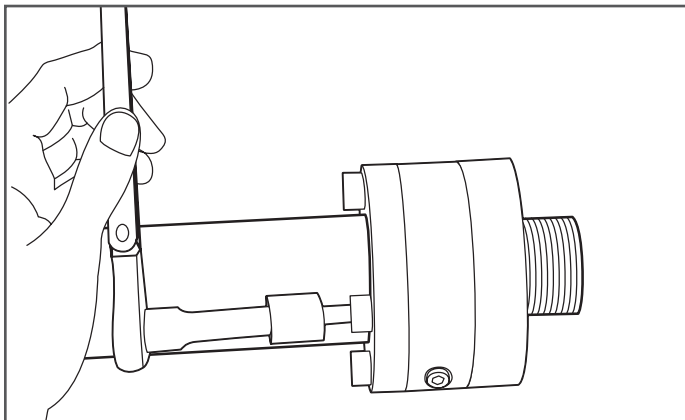

Figure 7-22
23. Tighten all cap screws in an alternating pattern to the torque values listed in Table 3 (Figure 7-22).